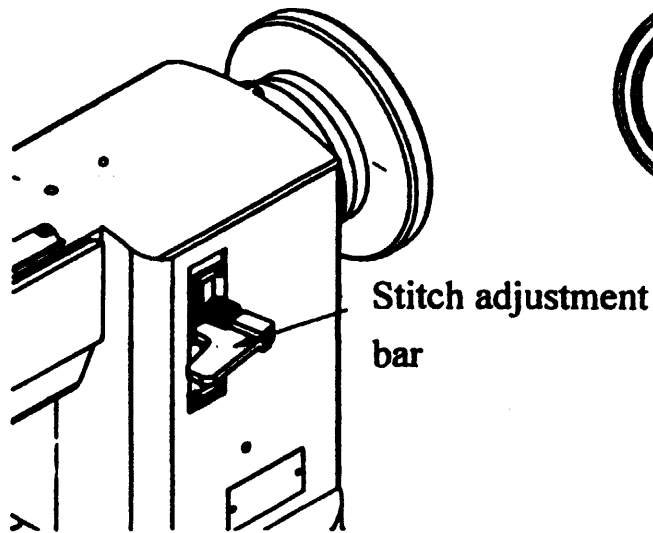

Fig.10
12. STITCH LENGTH & REVERSING LEVER: (Fig.10)